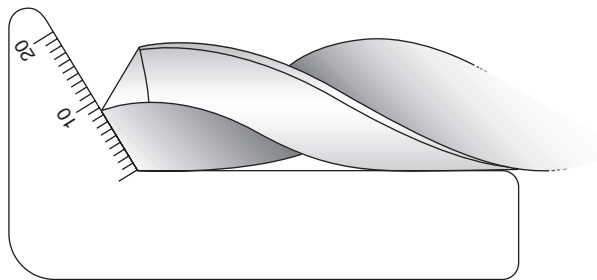

Figure 6
- (b) Identify the TWO features of the drill being checked in Figure 6. **2**